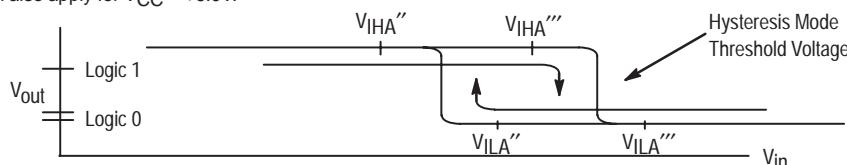

Figure 1. Hysteresis Mode Threshold Voltage
2. Output latched to logic high state prior to test. V_{IHA'}, V_{ILA'} are standard logic 1 and logic 0 MTTL threshold voltages. V_{IHA''}, V_{ILA''}, V_{IHA'''} and V_{ILA'''} are logic 1 and logic 0 threshold voltages in the hysteresis mode as shown in Figure 1 on page 3.
- Output latched to logic high state prior to test. V_{IHA'}, V_{ILA'} are standard logic 1 and logic 0 MTTL threshold voltages. V_{IHA''}, V_{ILA''}, V_{IHA'''} and V_{ILA'''} are logic 1 and logic 0 threshold voltages in the hysteresis mode as shown in Figure 1 on page 3.